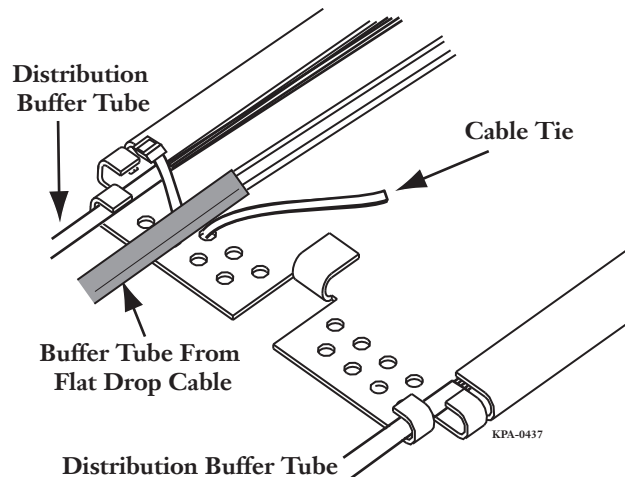

Figure 49
- Step 3:** Using the inner tab on the splice tray, position the buffer tube approximately 1 cm (3/8 inch) beyond the tab (Figure 49).